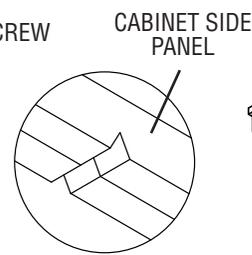

Fig. 4
**NOTE:** Interconnect cable is CL2 rated. Installer should check with local building codes to determine if CL2 wire is allowed to run through floors, walls and ceilings. (See Fig. 4)